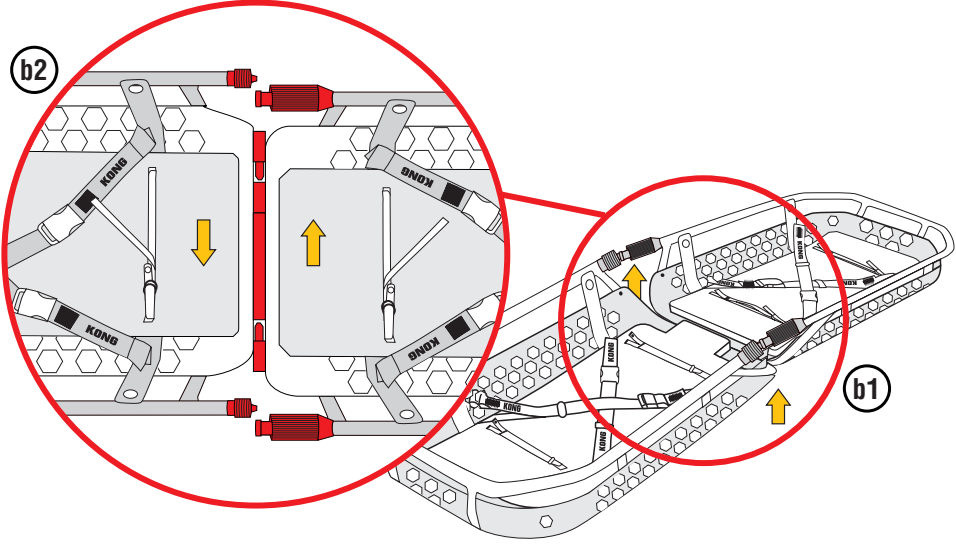

Fig.7
b) lift the two parts centrally and insert the pins into the cylinders (fig. 7),